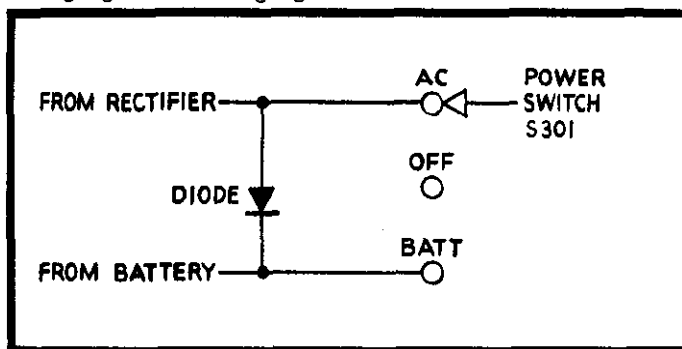

FIGURE 17. Line to Battery Switching.
5. Line Power to Battery Switching. The Model 640 can be modified so that a failure of line power (with POWER Switch set to "AC") will cause an automatic switching to battery operation to occur. A diode (0.75A, 50V, Keithley Part No. RF-17) can be connected at the POWER Switch as shown in Figure 17. When line power is present the diode is turned off and the battery is not used.